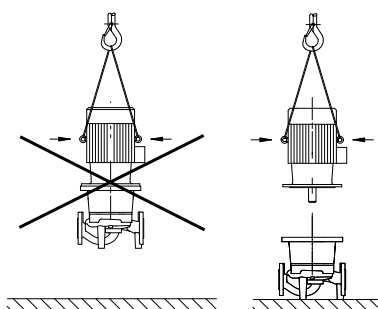

Fig. 18: Attaching the motor
- Only use lifting eyes on the motor for carrying the weight of the motor and not for carrying the entire pump (Fig. 18).